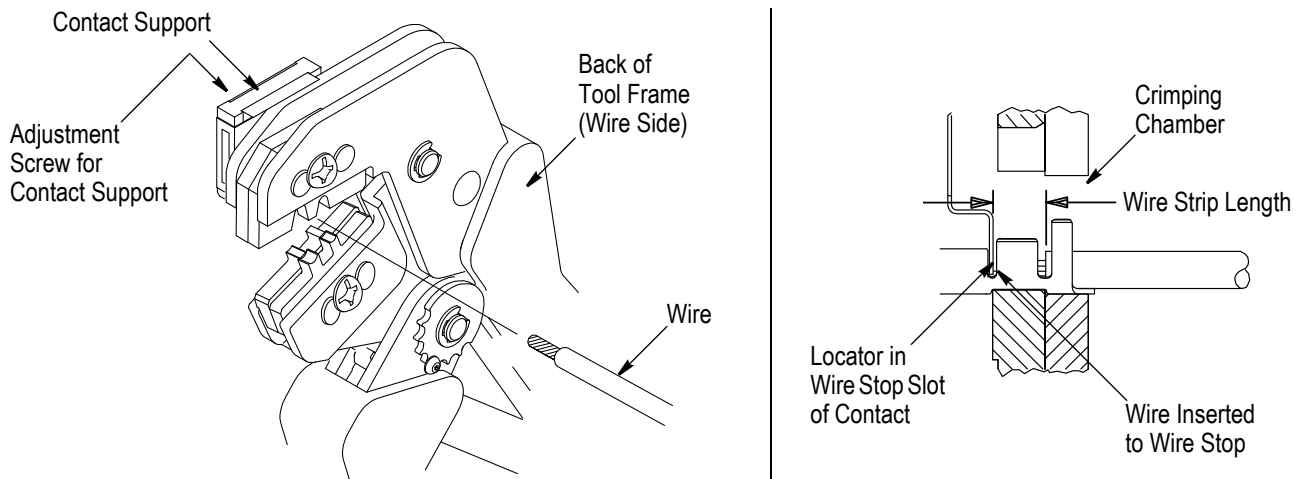

Figure 3
the tool frame. Place the contact up into the crimping chamber so that the locator drops into the slot in the contact. Refer to Figure 3. Butt the front end of the wire barrel against the locator.
5. Insert the stripped wire into contact insulation barrel and wire barrel until it is butted against the wire stop as shown in Figure 3.
NOTE The crimped contact may stick in the crimping area; however the contact can be removed by pushing downward on the top of the locator (see Figure 3).